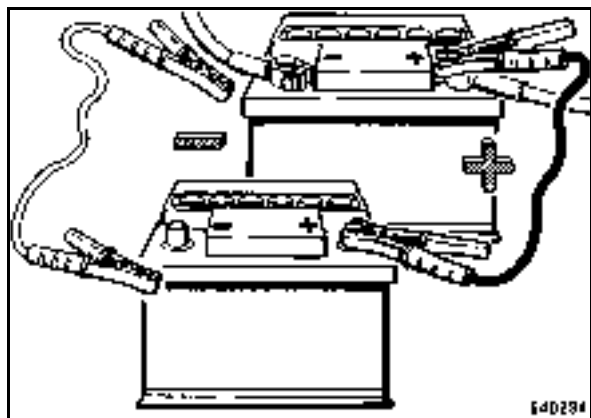

Fig. 39
- When starting with an external battery connect the plus poles (Fig. 39) first and the minus poles (ground cable) after.